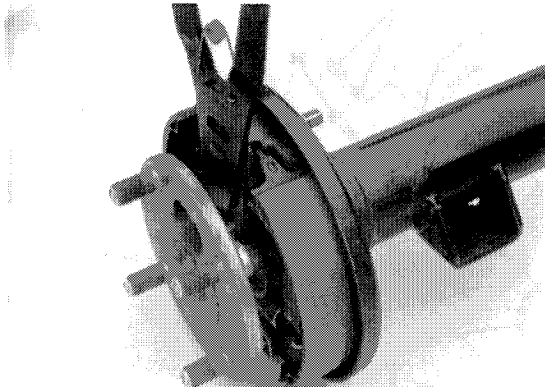

Figure 6-2
4. Remove internal retaining ring (19) from axle tube using 90° internal snap ring pliers (Figure 6-2).